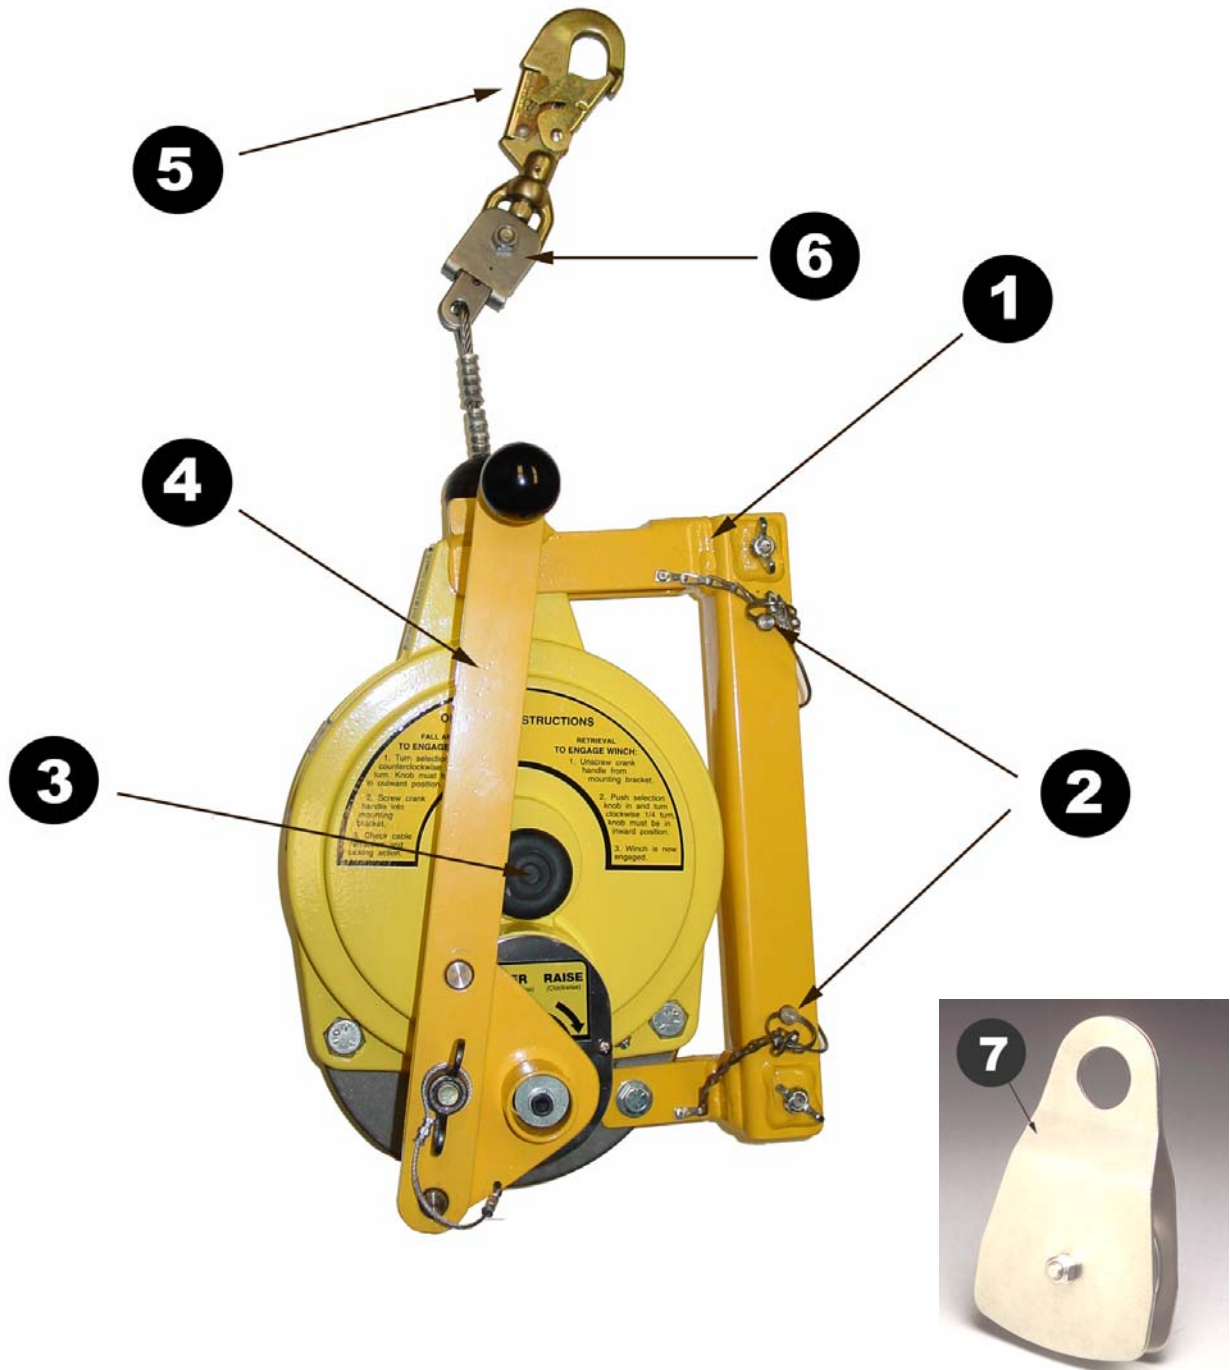

FIGURE 1
Your retractable lifeline may have been supplied with one of the two styles of stress indicators shown above. It is located at the end of the lifeline's cable or rope, as an integral part of or just above the locking swivel snaphook. When new, the stress indicator appears as shown in fig. 1. If subjected to a fall arrest impact (activated), it will appear as shown in figure 2. **DO NOT USE** if the stress indicator has been activated.
inspect the entire fall arrest unit for any indication of damage, wear or malfunction to include, but not limited to, worn cable or damaged locking snaphook. Remove from service immediately if the unit is damaged, has been subjected to a severe fall, does not pass inspection, the stress indicator's (fig. 1, (6)) red area is visible or if the unit has not been inspected by the Gemtor factory within the last 12 months.
OPERATING INSTRUCTIONS (SEE FIG. 1):**Retractable Lifeline Operation (for fall arrest):**